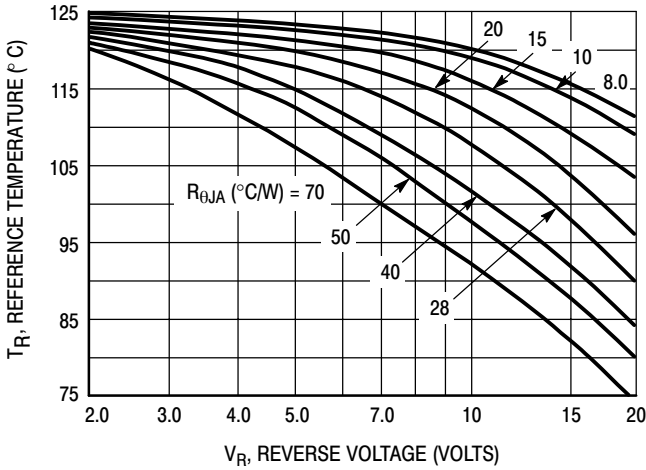

Figure 1. Maximum Reference Temperature 1N5820
Figures 1, 2, and 3 permit easier use of equation (1) by taking reverse power dissipation and thermal runaway into consideration. The figures solve for a reference temperature as determined by equation (2).
Inspection of equations (2) and (3) reveals that T_R is the ambient temperature at which thermal runaway occurs or where $T_J = 125^\circ\text{C}$, when forward power is zero. The transition from one boundary condition to the other is evident on the curves of Figures 1, 2, and 3 as a difference in the rate of change of the slope in the vicinity of 115°C . The data of Figures 1, 2, and 3 is based upon dc conditions. For